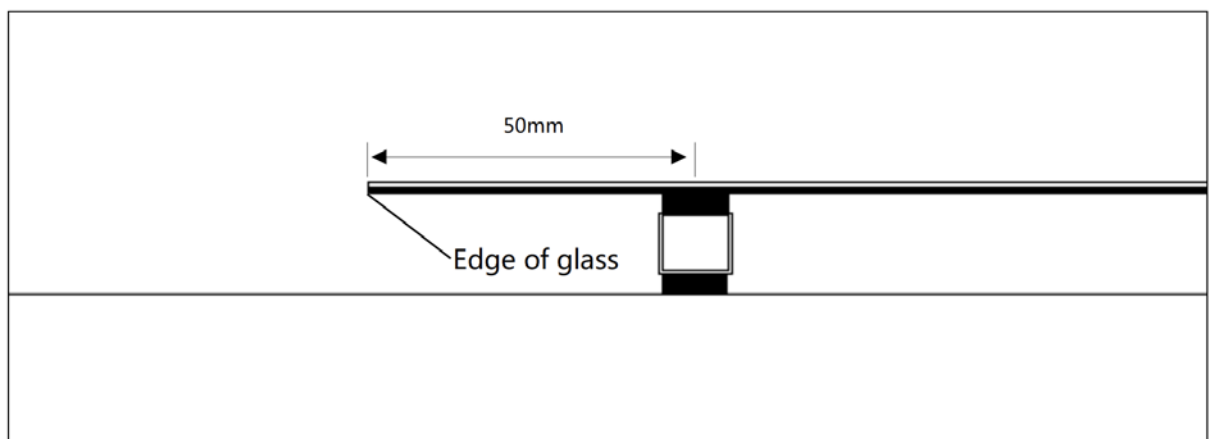

Figure 10
② The distance that the product overhangs beyond the rib at each end should not exceed 50mm. ( Figure 10)